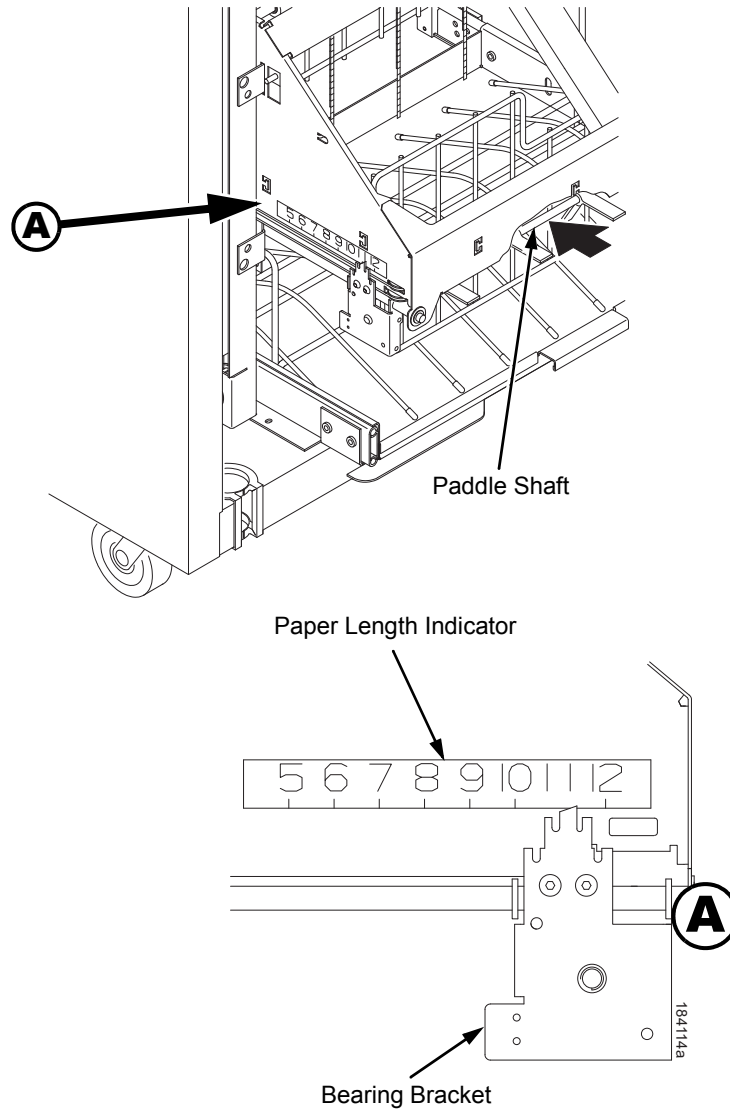

Figure 52. The Paper Length Indicator
5. Push or pull the paddle shaft toward the front or the rear of the printer to set the desired paper length. Align the indicator notch on the bearing bracket with the paper length indicator. The power stacker can handle paper or forms from 5 to 12 inches (12.7 to 30.5 cm) long. (Figure 52.)